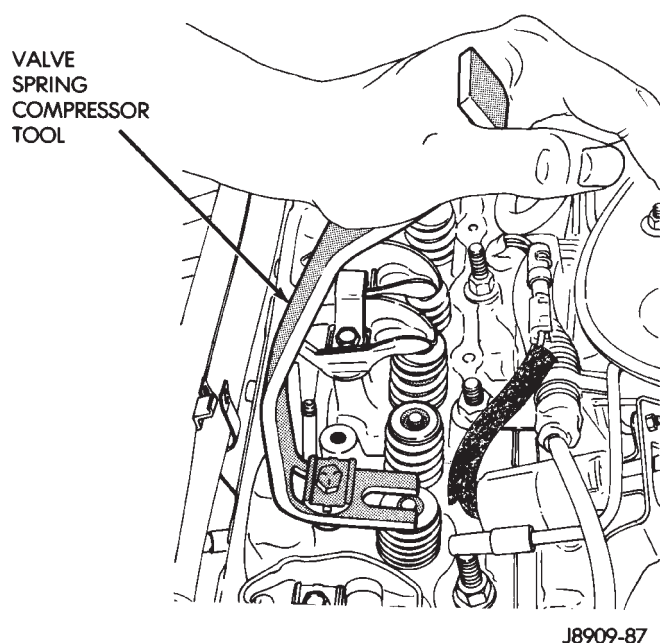

Fig. 16 Remove Valve Spring and Retainer
- (1) Remove the engine cylinder head cover.
- (2) Remove capscrews, bridge and pivot assemblies and rocker arms for access to each valve spring to be removed.
- (3) Remove push rods. Retain the push rods, bridges, pivots and rocker arms in the same order and position as removed.
- (4) Inspect the springs and retainer for cracks and possible signs of weakening.
- (5) Remove the spark plug(s) adjacent to the cylinder(s) below the valve springs to be removed.
- (6) Install a 14 mm (1/2 inch) (thread size) air hose adaptor in the spark plug hole. An adaptor can be constructed by welding an air hose connection to the body of a spark plug with the porcelain removed.
- (7) Connect an air hose to the adapter and apply air pressure slowly. Maintain at least 621 kPa (90 psi) of air pressure in the cylinder to hold the valves against their seats. For vehicles equipped with an air conditioner, use a flexible air adaptor when servicing the No.1 cylinder.
- (8) Tap the retainer or tip with a rawhide hammer to loosen the lock from the retainer. Use Valve Spring Compressor Tool 6138 to compress the spring and remove the locks (Fig. 16). Use an old rocker arm pivot and the supplied bolt to attach the tool.
- (9) Remove valve spring and retainer (Fig. 16).